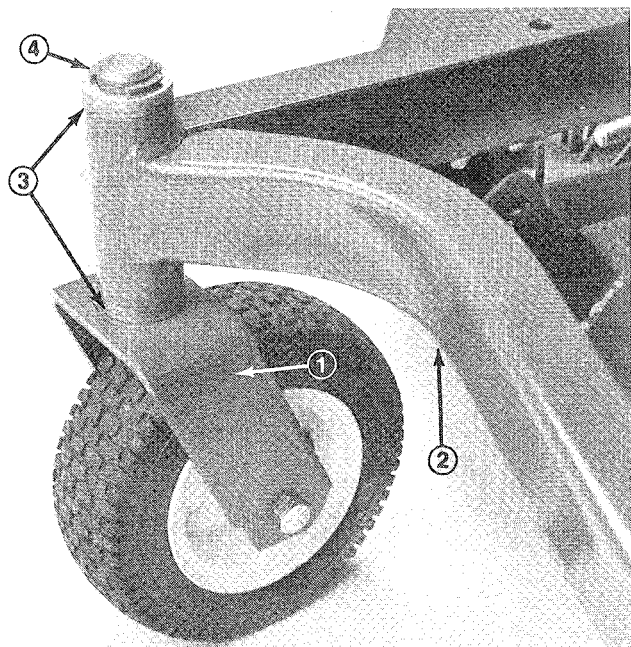

Figure 1
1. Place two thrust washers on each castor wheel shaft (Fig. 1).
2. Insert shafts into carrier frame. Install two more thrust washers and secure with klip ring (Fig. 1).